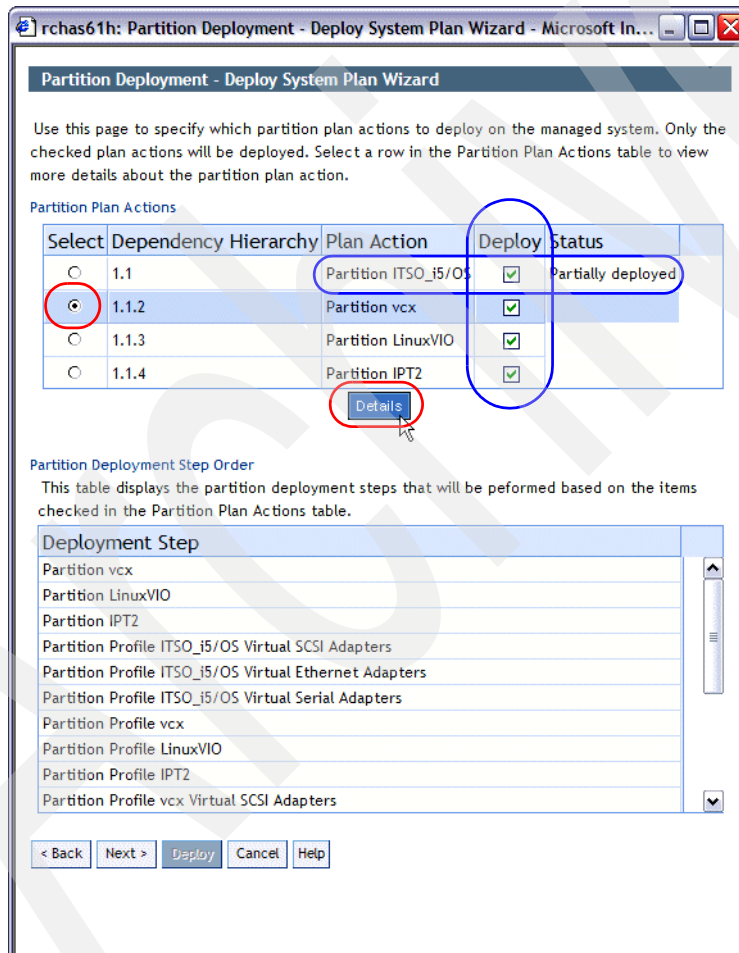

Figure 3-27 Request the details of a specific action
a. The first contains the list of all the actions that are planned (see Figure 3-27).